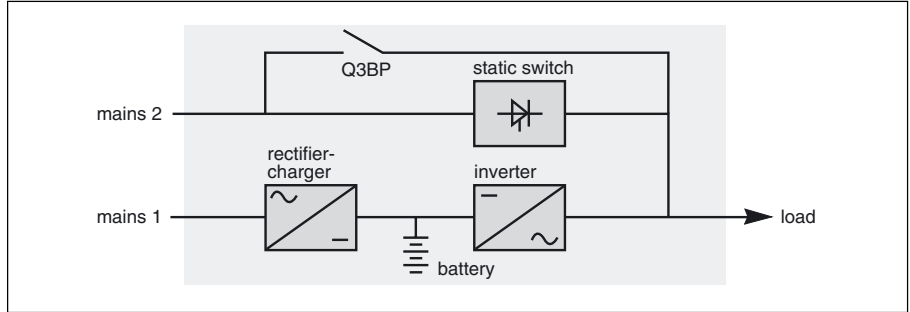

Fig. 1
- ▶ Single-unit or modular UPS: (figure 1)